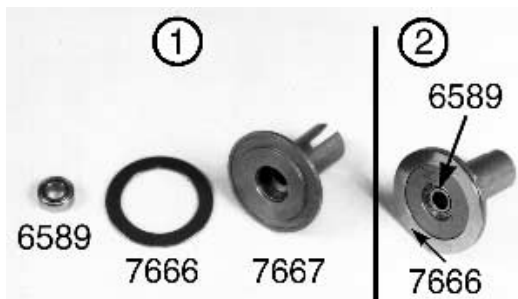

Fig. 51
□ **Fig. 51** (1) Remove the #7667 right diff outdrive hub and one of the #7666 diff drive rings from bag A. Go back to bag B and take out the second 5/32" x 5/16" #6589 unflanged ball bearing or #6597 5/32" x 5/16" unflanged bushing (remember these parts are determined by which kit you purchased). Now check to make sure that there are no burrs or residue on the inside or outside of the right diff outdrive hub which could damage parts or reduce the performance of the diff. (2) Install the #6589 bearing or #6597 bushing into the cavity in the center of the right diff hub. It should just push in with your finger. **Never drive or force the bearing or bushing into the hub cavity!** (3) Now place the #7666 diff drive ring onto the right diff hub. **Racer's Tip: The Team Drivers always check the diff drive rings for the side that is more rounded on the edge and place this side against the hub which will give you the best diff action possible. Do not try to pin the drive ring to the hub. This hub and ring system are designed to lock the drive ring without pinning. Please leave it AS IS.**